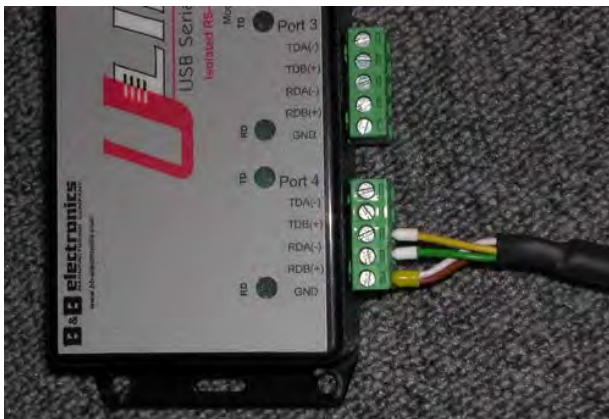

Figure 13 RS485 connection to transducer.
3. Data cable (RS 485, 3 wire): A (-) conductor: yellow; B (+) conductor: green; RS485 - GND: white & brown; shielding as required: (see Figure 13); standard length 10 m.